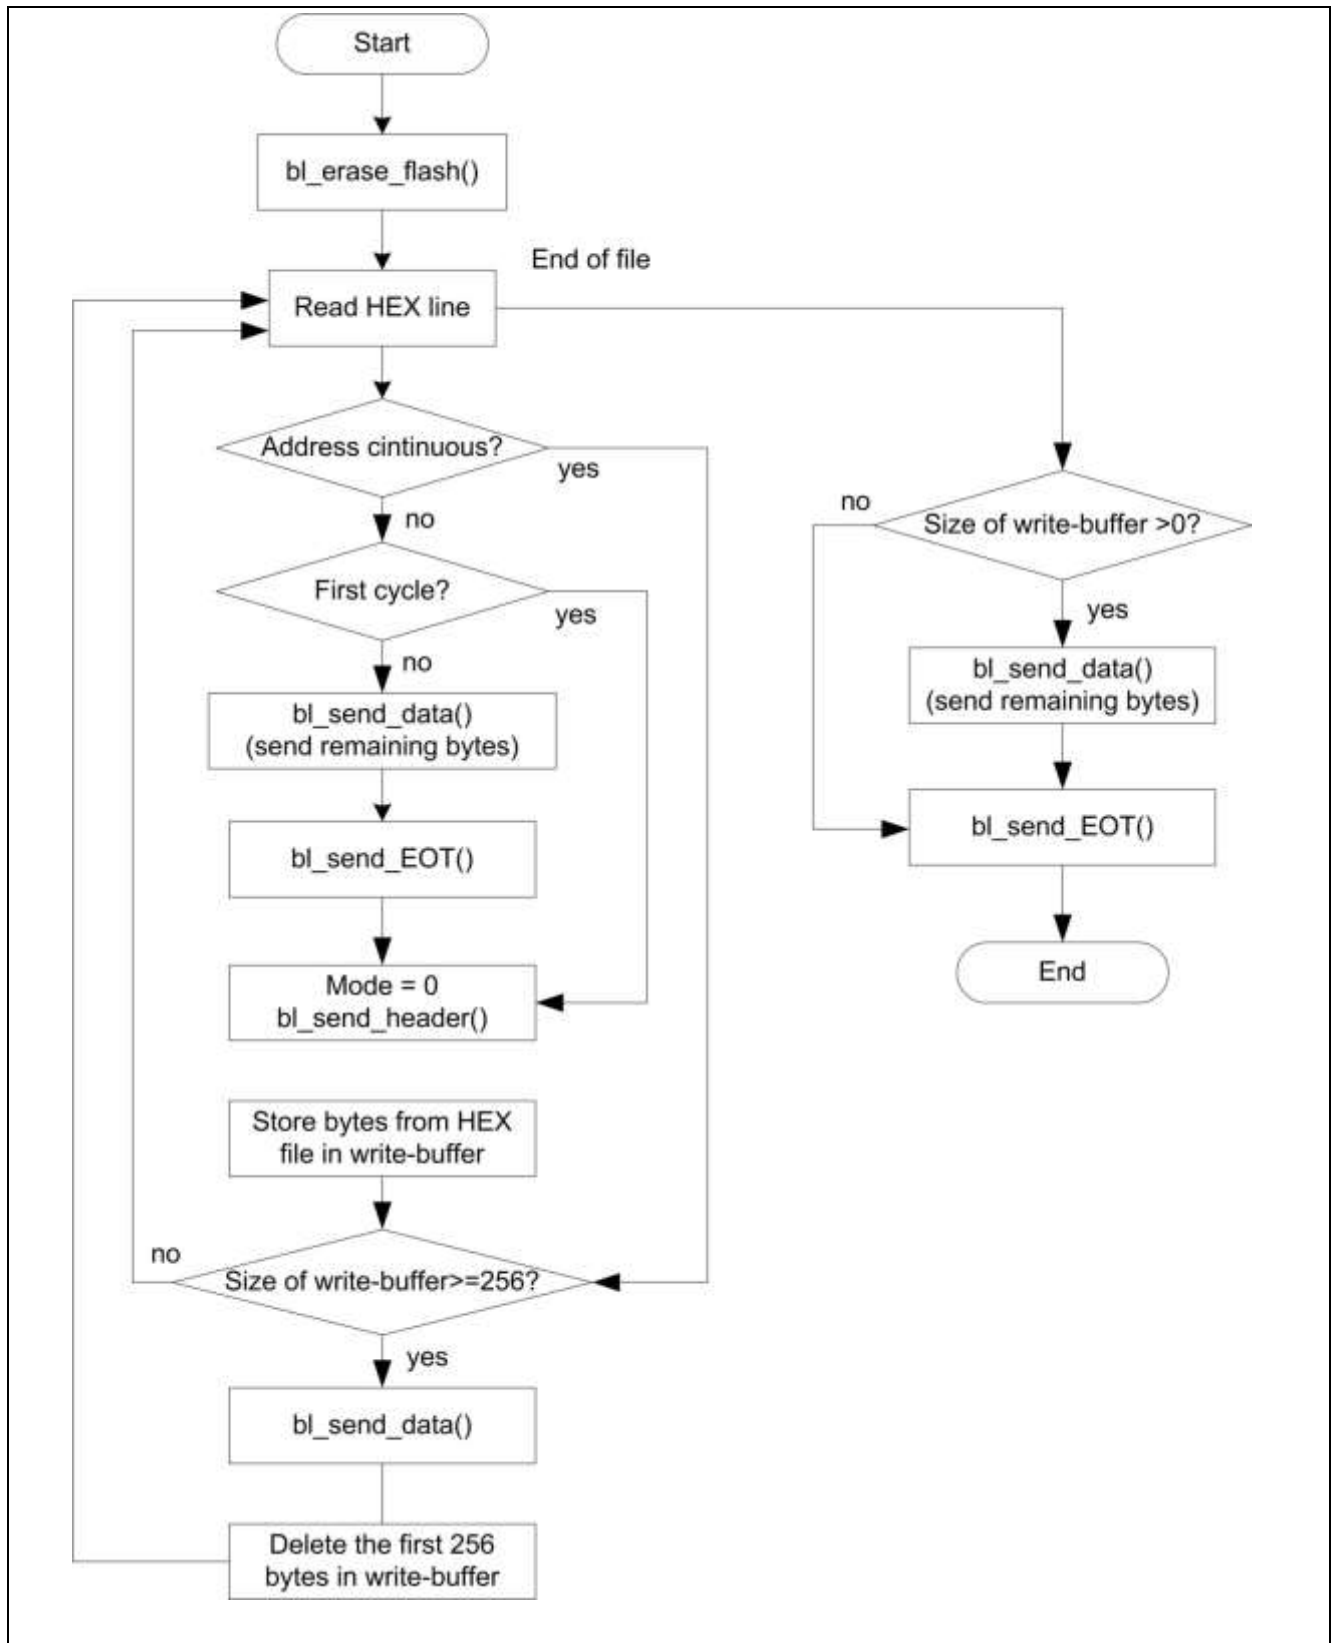

Figure 5 Flash programming procedure implemented in bl_download_pflash()
- The Flash programming procedure, as shown in Figure 5, is implemented in `bl_download_pflash()`.